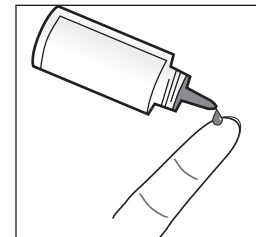

Figure 3
- Squeeze the bottle again to get a second drop onto a clean, non-absorbent surface or on your fingertip. *See Figure 3.*